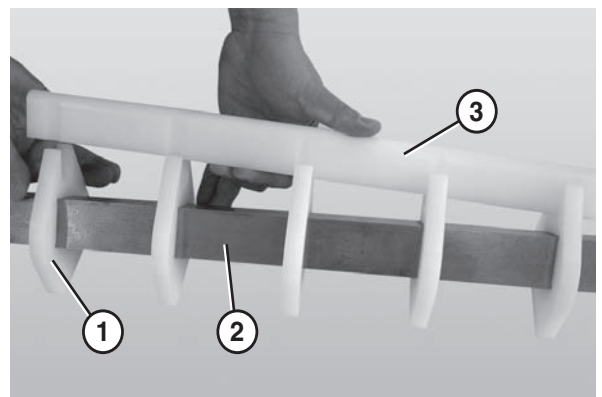

Figure 80
1. Slide the nose bar pucks (**Figure 80, item 1**) onto the nose bar drive post (**Figure 80, item 2**).
2. Attach the nose bar wear strip (**Figure 80, item 3**).